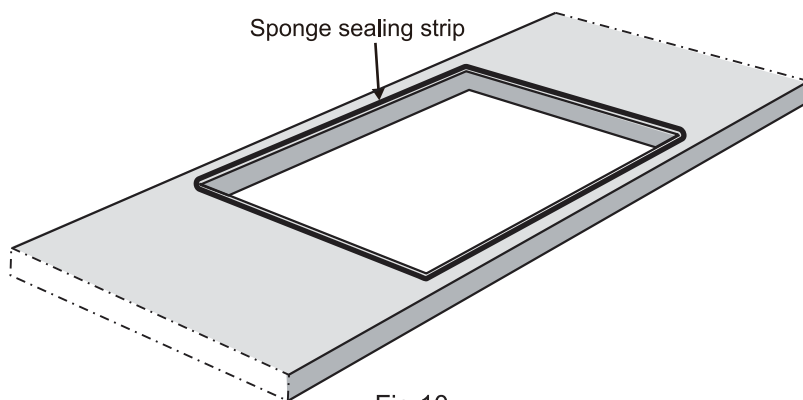

Fig.10
- e. Please make sure the sponge sealing tape is properly attached to the edge of the cut-out(Fig.10).